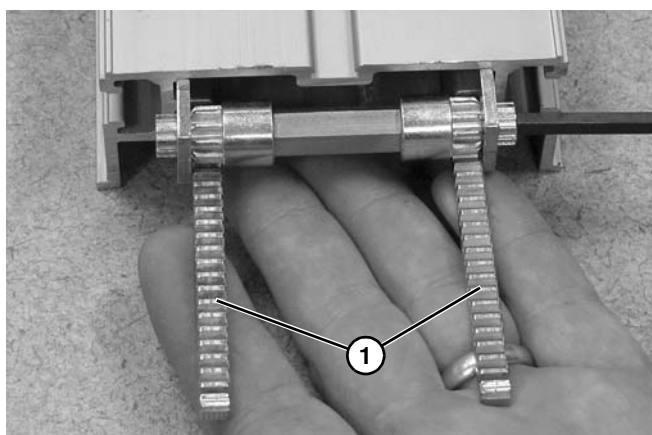

Figure 115
9. Insert both gear racks (**Figure 115, item 1**) into conveyor frame.